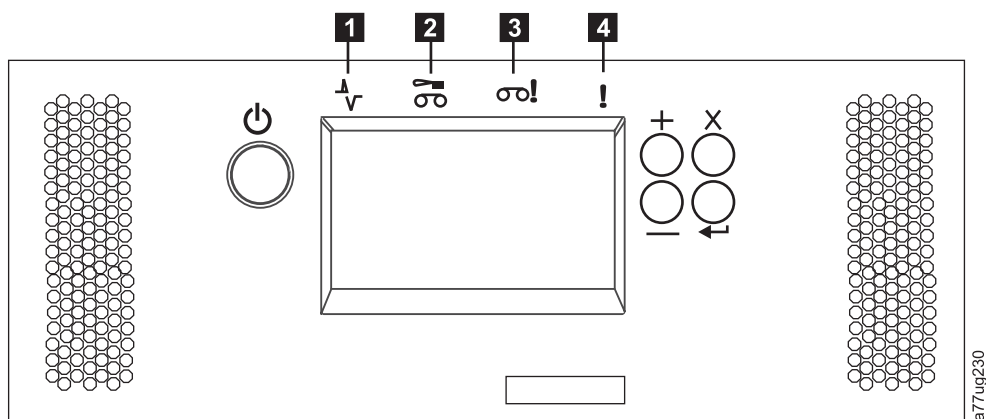

Figure 186. Library front panel LEDs
- 1) After power up, the Ready/Activity LED (**1** in Figure 186 on page 238) turns ON.
- 1) The Error LED (**4** in Figure 186 on page 238) turns ON.
- 1) The replacement library enclosure powers up with the Ready/Activity LED (**1** in Figure 186 on page 238) ON.
- 1) The Error LED (**4** in Figure 186 on page 238) turns ON. This action indicates that the library controller card from the defective library is not functioning properly.
- 1) The replacement library enclosure completes with the Ready/Activity LED (**1** in Figure 186 on page 238) ON.
- 1) The error LED (**4** in Figure 186 on page 238) turns ON.